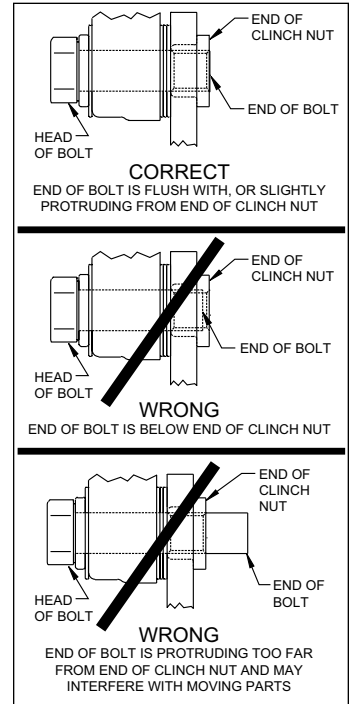

Figure 3. Clinch Nut Engagement Diagram
**CAUTION:** All mounting bolts must fully engage clinch nuts. Be sure to check that all bolts are either flush or protruding through flanged side of clinch nut after shimming, Figure 3.
- Pack the small outer bearing cone (12) with high temperature disc brake bearing grease and install into hub (5). Slide the hub/rotor assembly onto the spindle. Secure using spindle washer (13) and OEM spindle nut, Photo 6. Adjust bearings per OEM specifications. Install saved OEM nut lock (if any) and a new cotter pin (not included).
- Screw dust cap (14) into hub (5), Photo 7. Friction created by the o-ring (15) on the dust cap keeps it from unscrewing. **NOTE:** *The O.D. of the existing OEM spindle washer may be larger than the I.D. of the dust cap not allowing it to seat against the hub face. Therefore, use the spindle washer (13) supplied with the kit instead of the OEM washer.*
- NOTE:** *Please reference the caution statement at the beginning of the assembly instructions.* Mount the caliper (16) onto the caliper mounting bracket (1) using bolts (17) and washers (18), as shown in Figure 1. Initially place one .035" thick shim (19) on each bolt between the caliper and the bracket, Photo 8. Temporarily tighten the mounting bolts and view the rotor (9) through the top opening of the caliper. The rotor should be centered in the caliper, Photo 9. If not, adjust by adding or subtracting shims (19) between the bracket and the caliper. Always use the same amount of shims on each of the two mounting bolts. **NOTE:** *The end of each bolt must be flush with or slightly protruding from the head of the clinch nut, as shown in Figure 3.* If necessary place spare shims (19) between washer (18) and caliper mounting ear to achieve the proper clinch nut engagement. Once the caliper alignment and clinch nut engagement are correct, remove the bolts one at a time, apply red *Loctite*® 271 to bolt threads, and torque to 40 ft-lb.
- Install the disc brake pads (20) into the caliper, with the friction material facing the rotor (9), Photo 10, and secure in place using cotter pin (21), Photo 11.